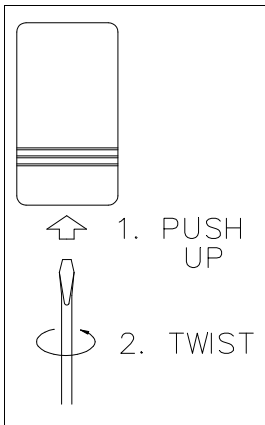

Fig. 2 Opening the case
1. Remove the cover. Remove the GEM-TRANS2 transmitter cover by inserting a small screwdriver into the slot at the bottom and twisting while applying upward pressure. See Fig. 2 below.